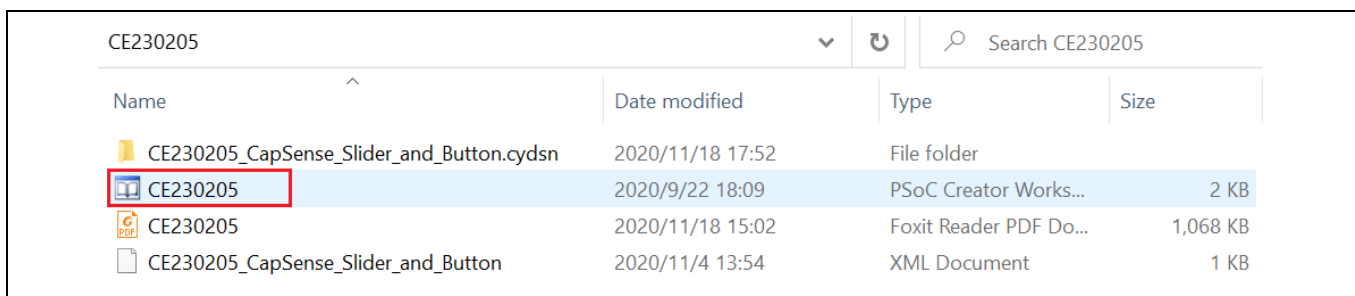

Figure 13 Open Code Example from PSoC Creator
To access these code examples, download the CY8CKIT-045 PSoC 4500S Pioneer kit package from the kit webpage. After extracting the downloaded zip file, select **File > Open > Project/Workspace** in PSoC Creator and then select the code example path to open it. See Figure 13.
2. Click **File > Open > Project/Workspace**, and then select the code example path. See Figure 13.